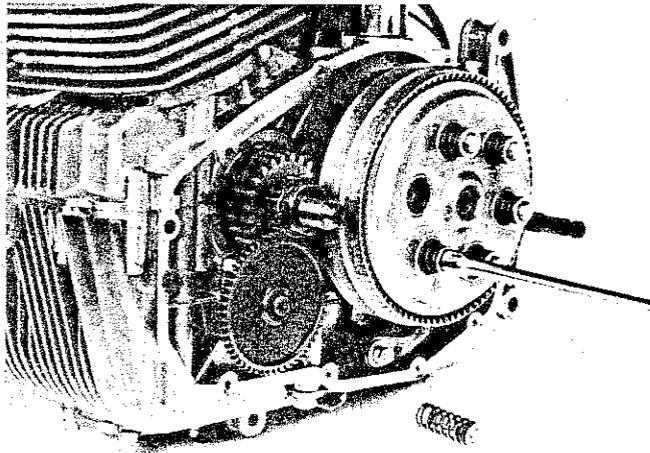
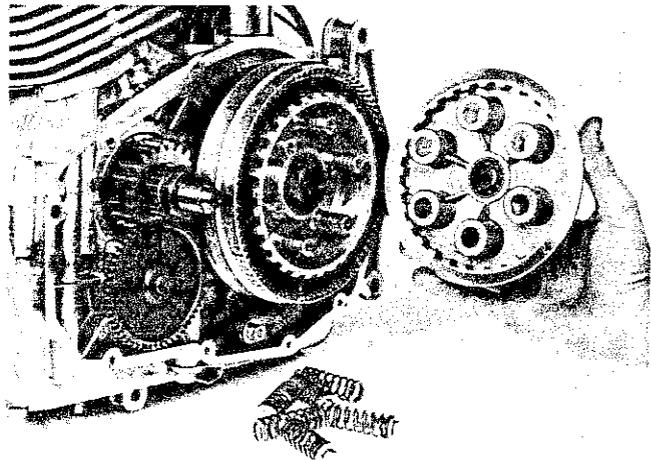

Fig. 108
Fig. 109
- 6) Svitando i 6 bulloncini (Fig. 108), togliere molle e distanziali e smontare lo spingidisco (Fig. 109).
- 6) Undo 6 bolts (Fig. 108), remove springs and spacers and withdraw the pressure plate (Fig. 109).